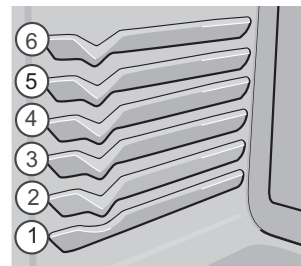

Figure 10: Use rack positions 1 and 5 for multiple rack baking
- For best results when baking cakes using two oven racks, place Glide rack in position 4 with the flat rack in position 1. (See Figure 10).